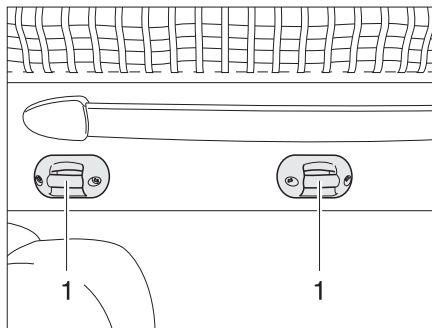

Fig. 166 Access ladder holder
- Hook the access ladder to the pull-down bed by attaching both brackets into the U-bolts (Fig. 166,1).